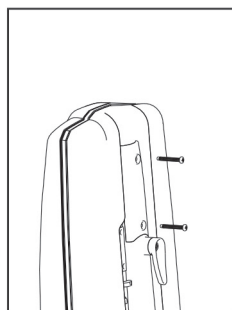

Fig. 2
2. Remove the handle bracket by removing the two screws (Fig. 2).